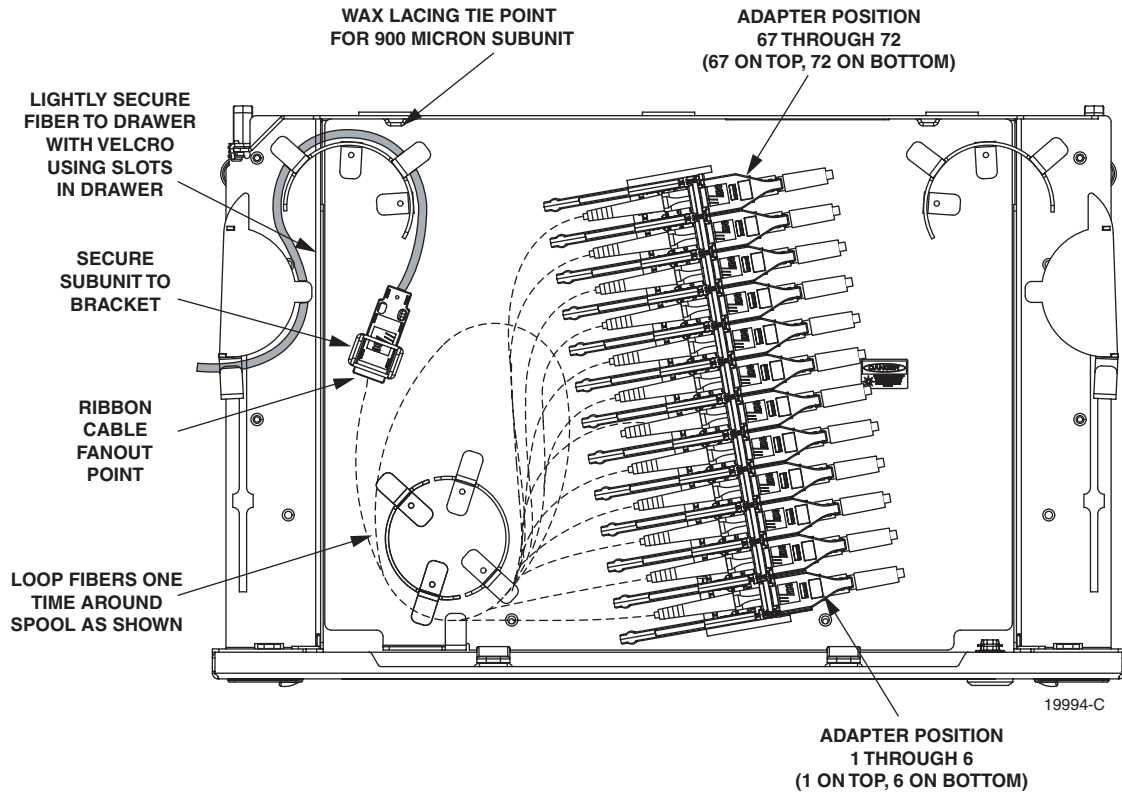

Figure 15. Cable Routing for 72-Position Termination Tray (Left Entry Only)
5. Route the cable within the tray as shown in Figure 15. Note that there are different routings for cables being terminated at the front and rear of the adapters packs.
6. Secure the cables on the side and rear of the tray as shown in Figure 15.